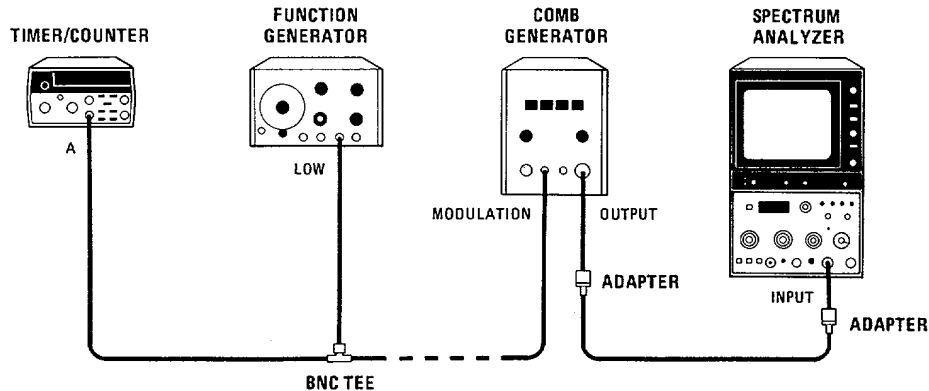

Figure 4-1. Frequency Span Accuracy Test Setup
2. Connect equipment as shown in Figure 4-1 but do not connect function generator to comb generator.